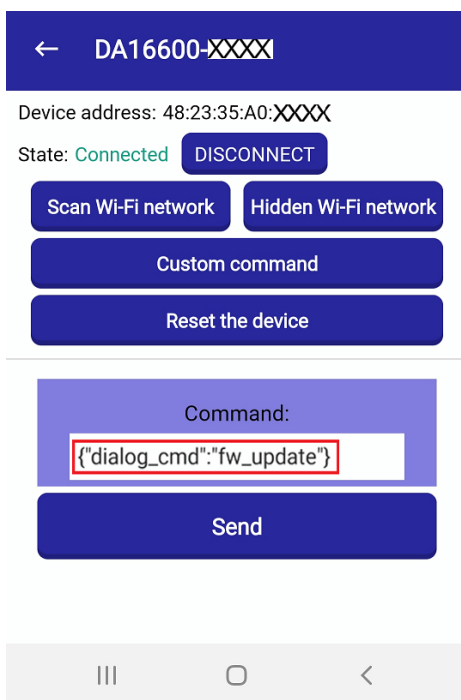

Figure 23: Provisioning Application – Custom Command
- Bluetooth® LE Mobile Application > Start DA16600-based > **Start** > Connect to "DA16600-BLE" > **Custom command** (see Figure 23), type the command `{"dialog_cmd":"fw_update"}` and click **Send**.